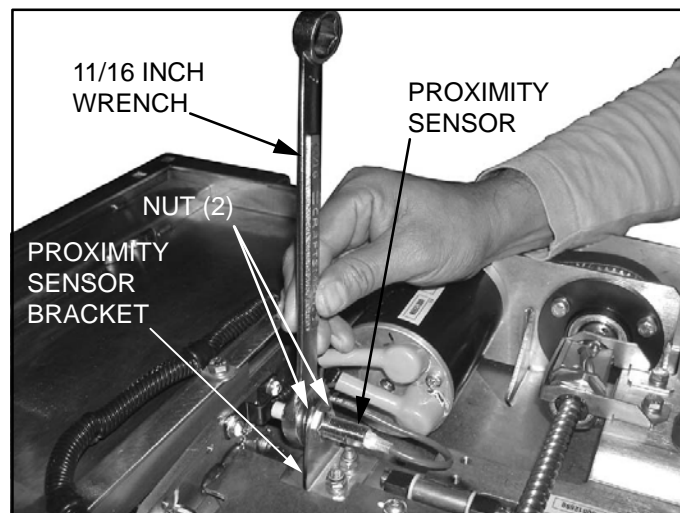

FIGURE 4-12: PROXIMITY SENSOR
- e. Refer to **Figure 4-12**. Remove and retain two 11/16 inch hex nuts that attach the proximity sensor to the proximity sensor bracket.
- d. Refer to **Figure 4-12**. Slide the proximity sensor in through proximity sensor bracket.